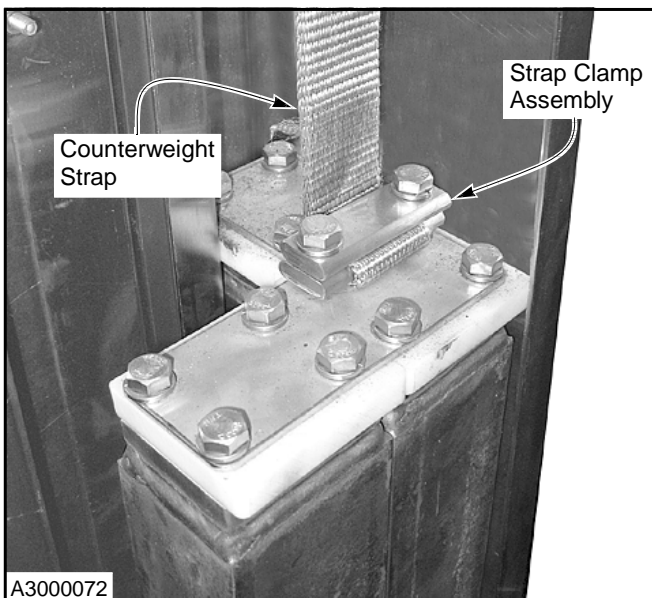

Figure 23
9. Secure the strap to the counterweight using the strap clamp and saved hardware. Make sure the clamp is placed as close to the pin as possible — with the clamp assembly tightly secured. (See Figure 23.)